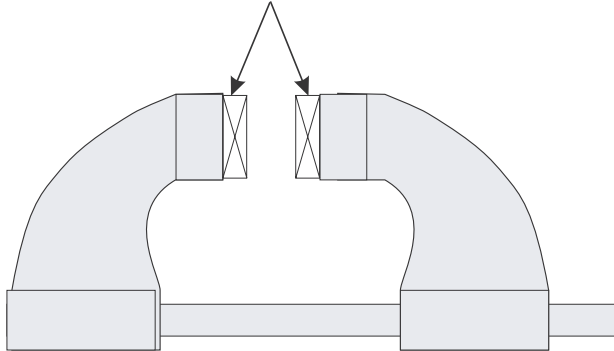

Figure 11-14. Pad the vise jaws to protect the End Cap threads.
- a. If a vise is used, install the jaw pads. If jaw pads are not available, tape or bind strips of wood to the vise jaws as shown in Figure 11-14.